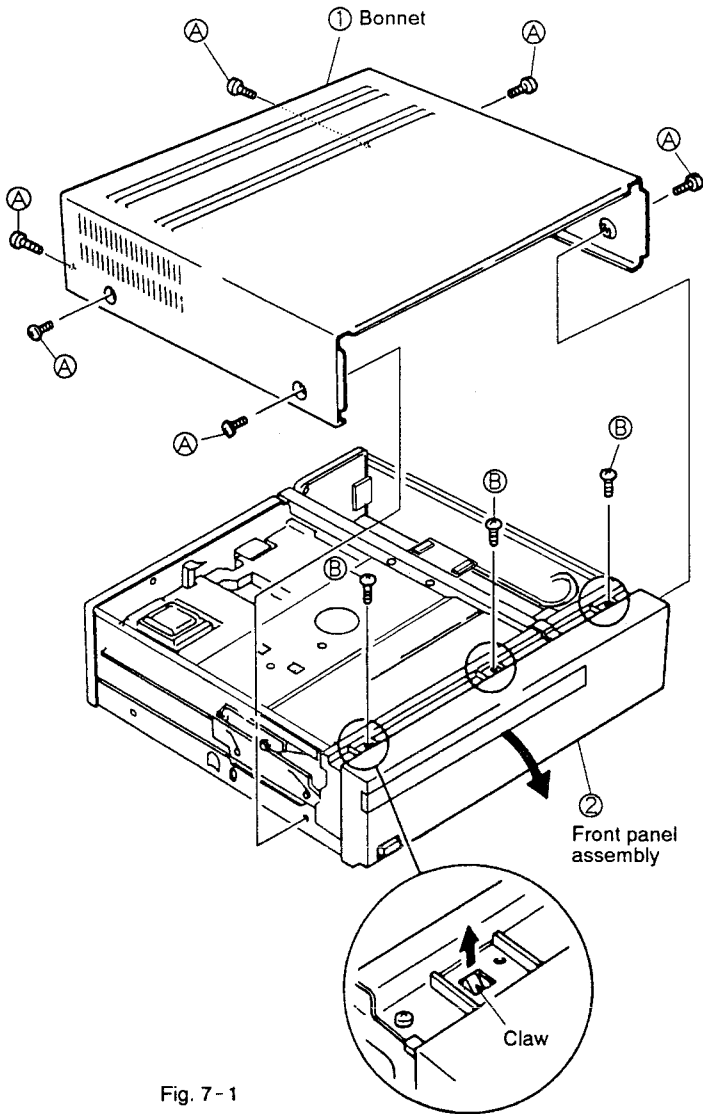

Fig. 7-1
### 7.1 REMOVING THE BONNET AND FRONT PANEL (Fig. 7-1, 2)
- ② When the power cannot be turned ON, remove the front panel (Fig. 7-1) and turn the gear pulley shown in Fig. 7-3 counterclockwise, and the tray will slide out toward the front.